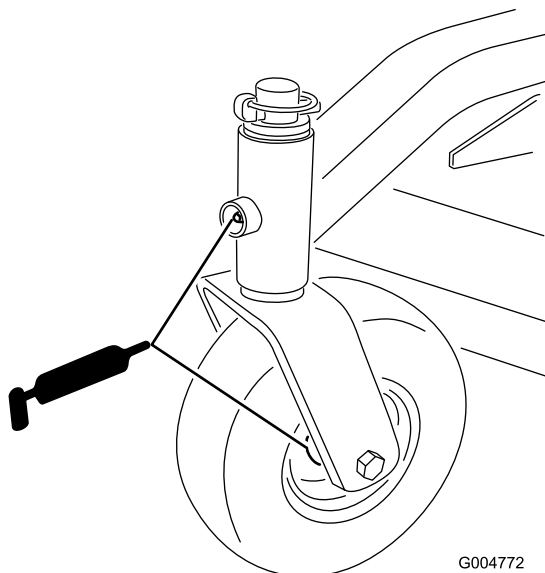

Figure 26
1. Lubricate the front caster wheel bearings and front pivots (Figure 26).